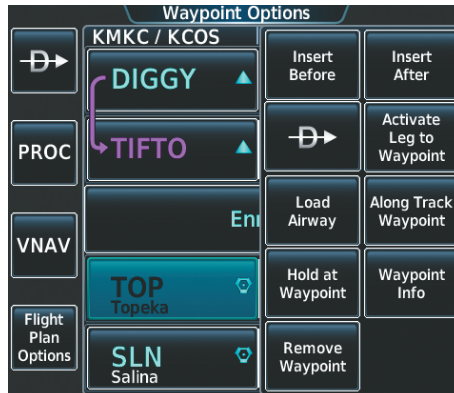

Figure 5-163 Begin Selecting the Airway
f) Touch the desired waypoint selection button (TOP) to display the Waypoint Options Window (Figure 5-163).